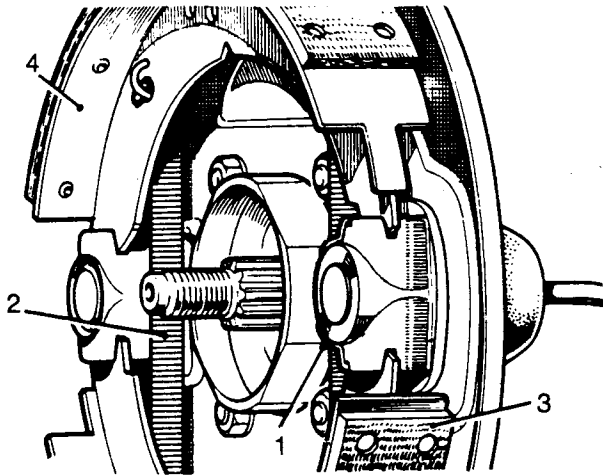

Fig K2.12
- (10) Refer to Fig K2.12. Fit the spring clip (1) to the expander unit.
- (11) Fit the brake shoes and pull-off springs together (2).
- (12) The fully lined end of the lower shoe (3) must be towards the expander housing.
- (13) The fully lined end of the upper shoe (4) must be towards the adjuster housing.
- (14) Replace the brake drum and secure with the washer and castellated nut. Fit a new split pin and spread the ends.